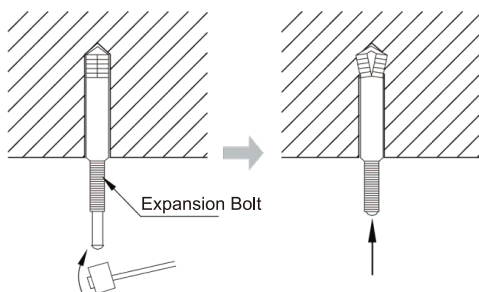

Fig 4.1.5
- b. Insert the M10 expansion bolt into the hole and then knock the nail into the bolt, as shown in Fig 4.1.5, and then remove the paper pattern.